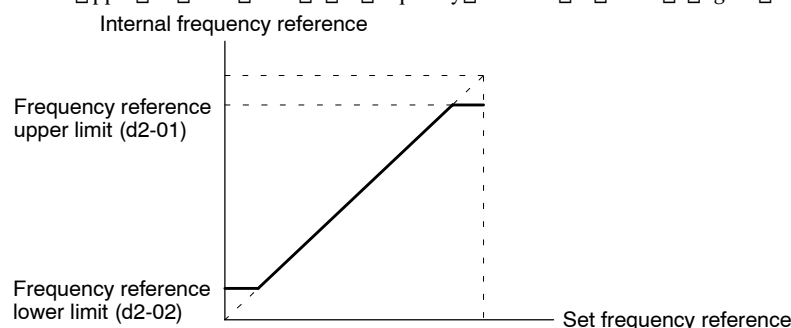

Fig 7.30 Upper and Lower Limits of the Frequency Reference
- The upper and lower limits of the frequency reference are shown in Figure 7.30.